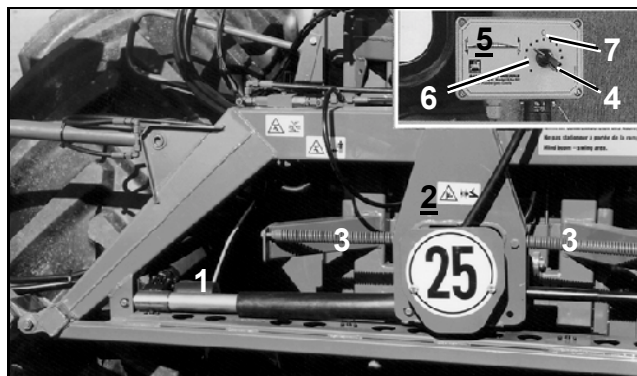
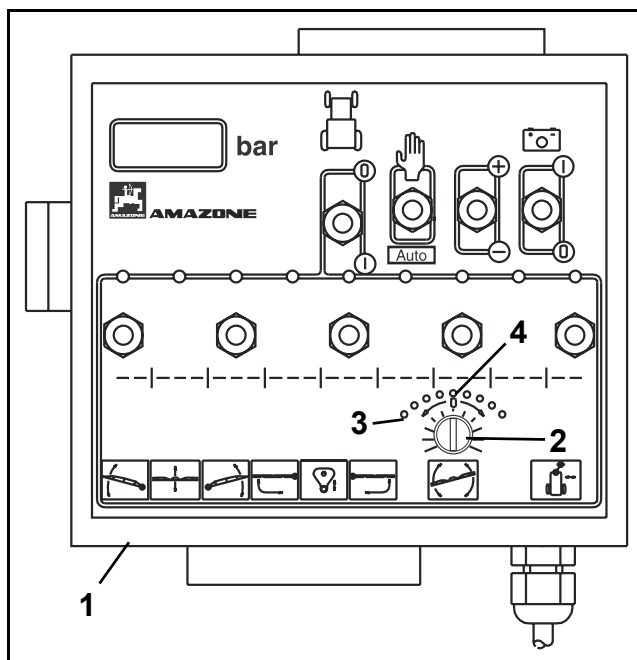

Fig. 105
Fig. 106
- For tilting the unfolded booms turn the setting knob (Fig. 105/4 or Fig. 106/2). The individual points on the scale represent pre-determined angle of boom tilt.